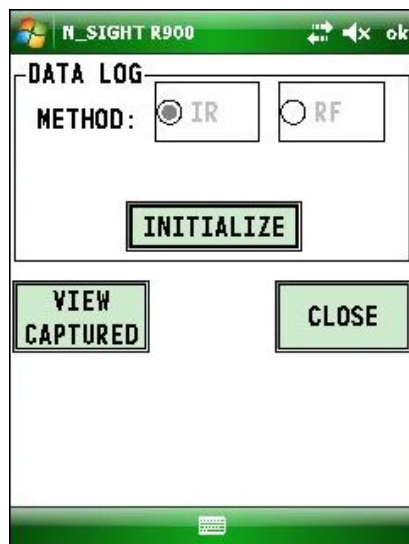

Figure 7.7 Initialize Device Screen
- 1 The Initialize Device screen appears if you are not connected or you are not in range of your R900 BCT. Click **INITIALIZE**. See Figure 7.7.
If you are not connected to the R900 BCT or you are not in range of it, the Initialize Device screen appears. See Figure 7.7 on page 7-5. Click **INITIALIZE** to continue.